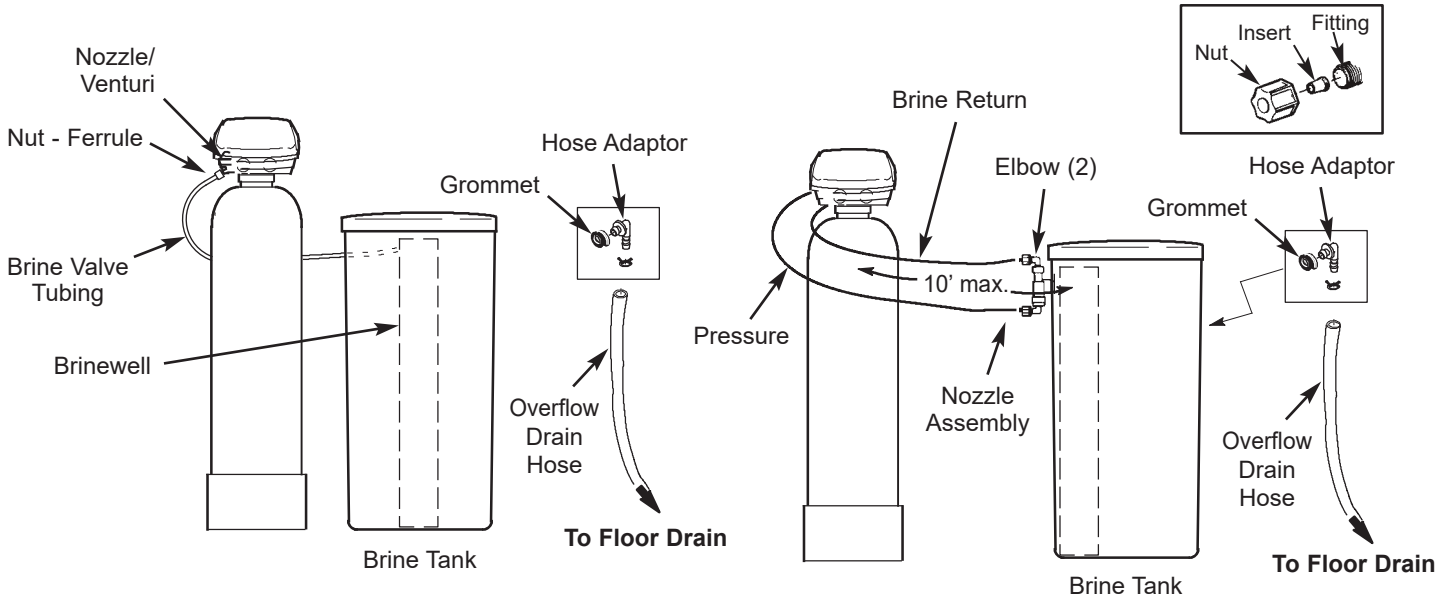

FIG. 7
2. **Softener Models: Move the brine tank assembly into position** nearby the resin tank. Enough tubing is included to allow locating the tank up to 10 feet away from the resin tank (Figure 7).
- i. Route the tubing attached to the brine valve assembly out of the brine tank through the hole in the brine tank sidewall (Figure 7). Use the slot in the brinewell to hold tubing in place.
- ii. Install two elbows (in separate parts bag with the brine tank) into the top and bottom of the nozzle assembly (Figure 7).